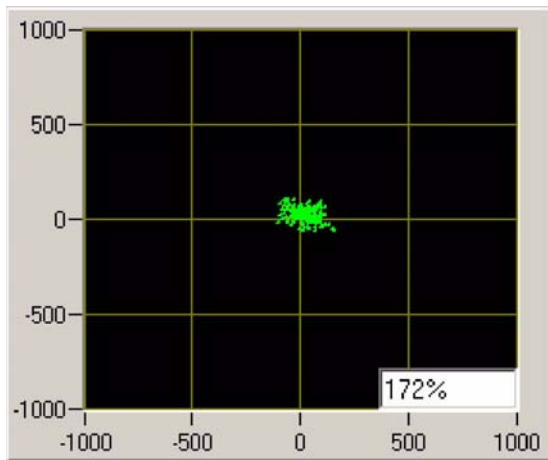

Figure 4-17 Shaft Orbit
2. Observe the shaft orbit from the “Magnetic Bearing Monitoring” graph. See Figure 4-17. If the shaft (represented by green dots) exceeds 500 units in any direction (left, right, up, down), then proceed with the next step, otherwise continue with step 4.